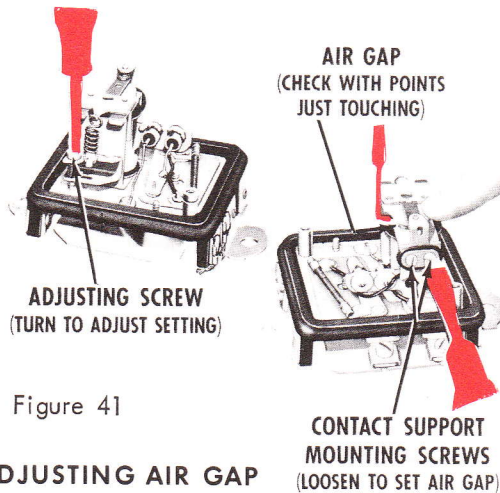

Figure 41
1. After cleaning the contacts, set the air gap to **.070 inch** as shown in Figure 41.